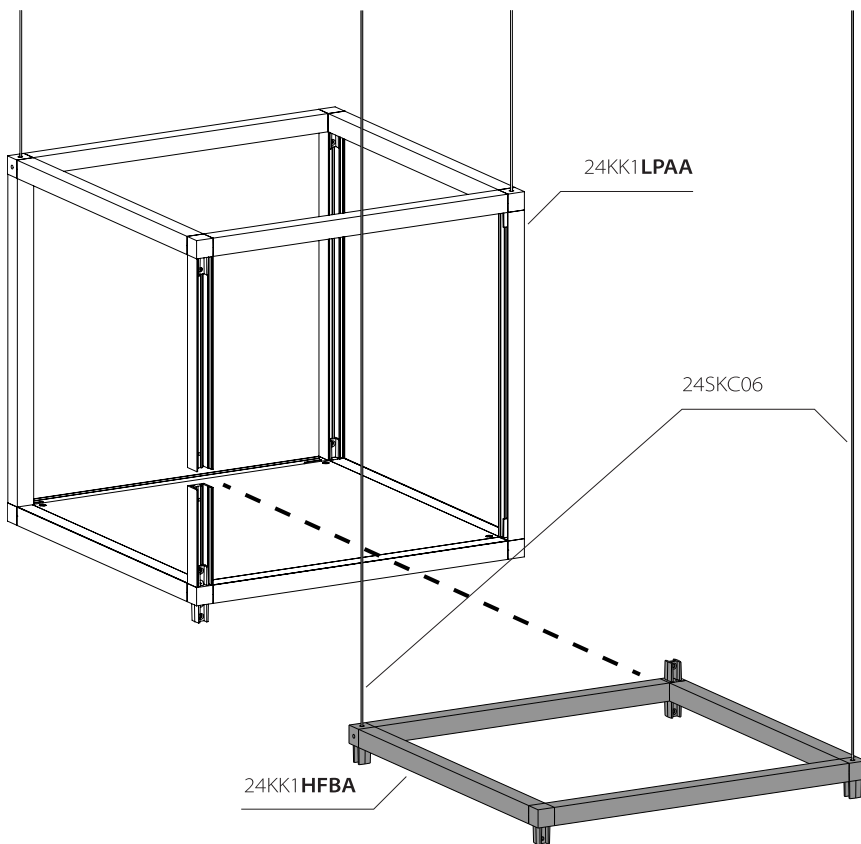

Fig. 12a
- 21a. Install 24KK1HFBA to 24KK1LPAA assembly in orientation shown in Fig. 12a.